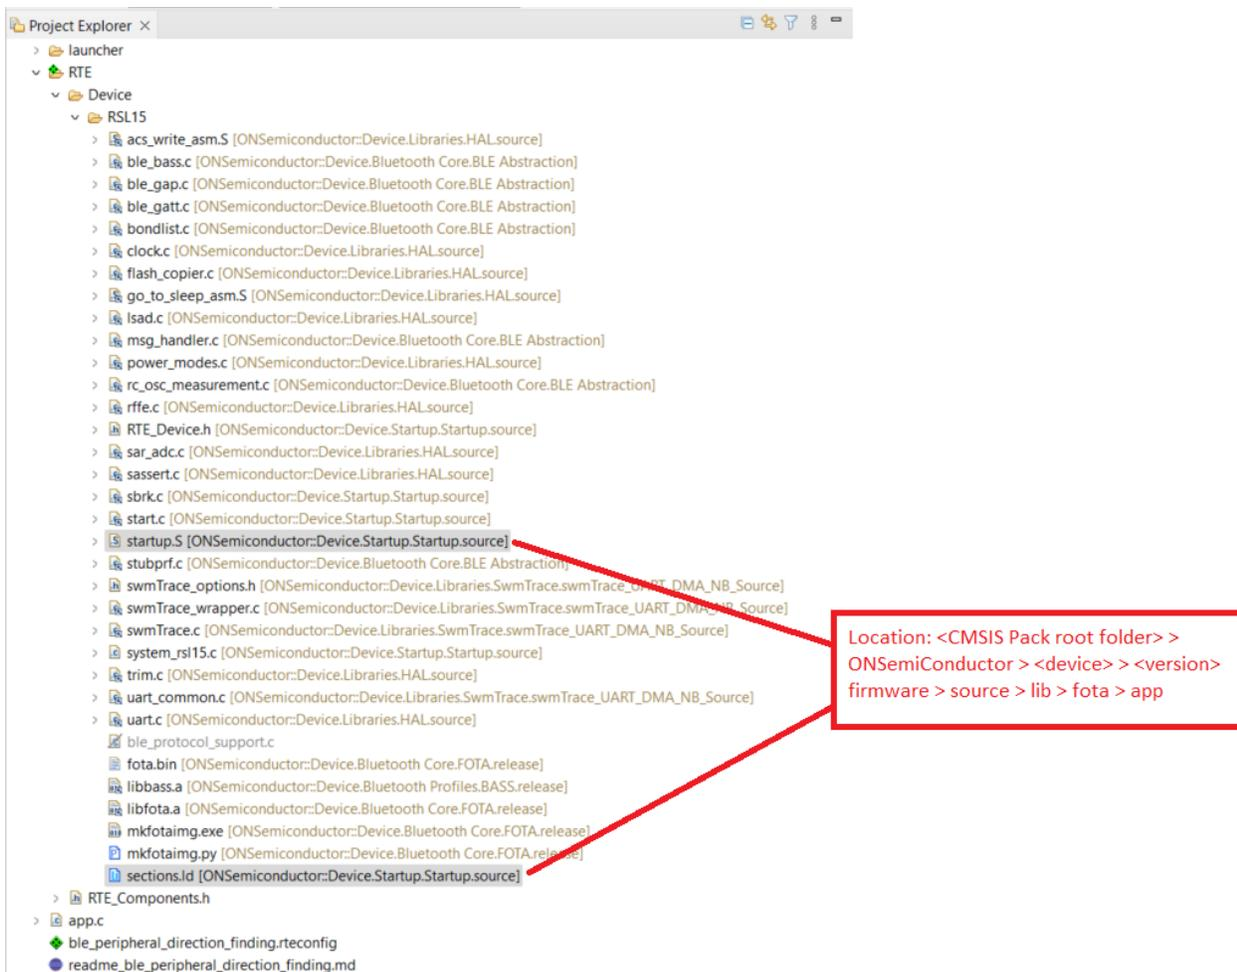

Figure 17. Replacing the sections.ld and startup.S Files
- Replace your linker script `sections.ld` file with the one that contains the FOTA placement, and also replace your `startup.S` file, as shown in the "Replacing the sections.ld and startup.S Files" figure (Figure 17). The new linker script and `startup.S` file can be copied from `ble_peripheral_server_fota`, or directly from the CMSIS-Pack root folder as follows: